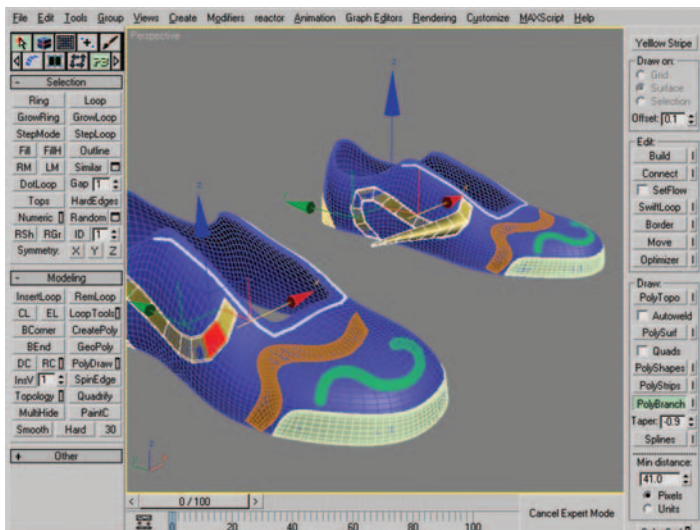

Figure 12.48 Polygon selection (left) and resulting PolyBranch branch (right).
- Hold down the Ctrl key and click a polygon that makes up the yellow stripe to select it (Figure 12.48, left).
6. Left-click on the polygon and drag (with the left mouse button pressed as you go) to create a “branch” as your mouse moves away from the polygon selection (Figure 12.48, right).